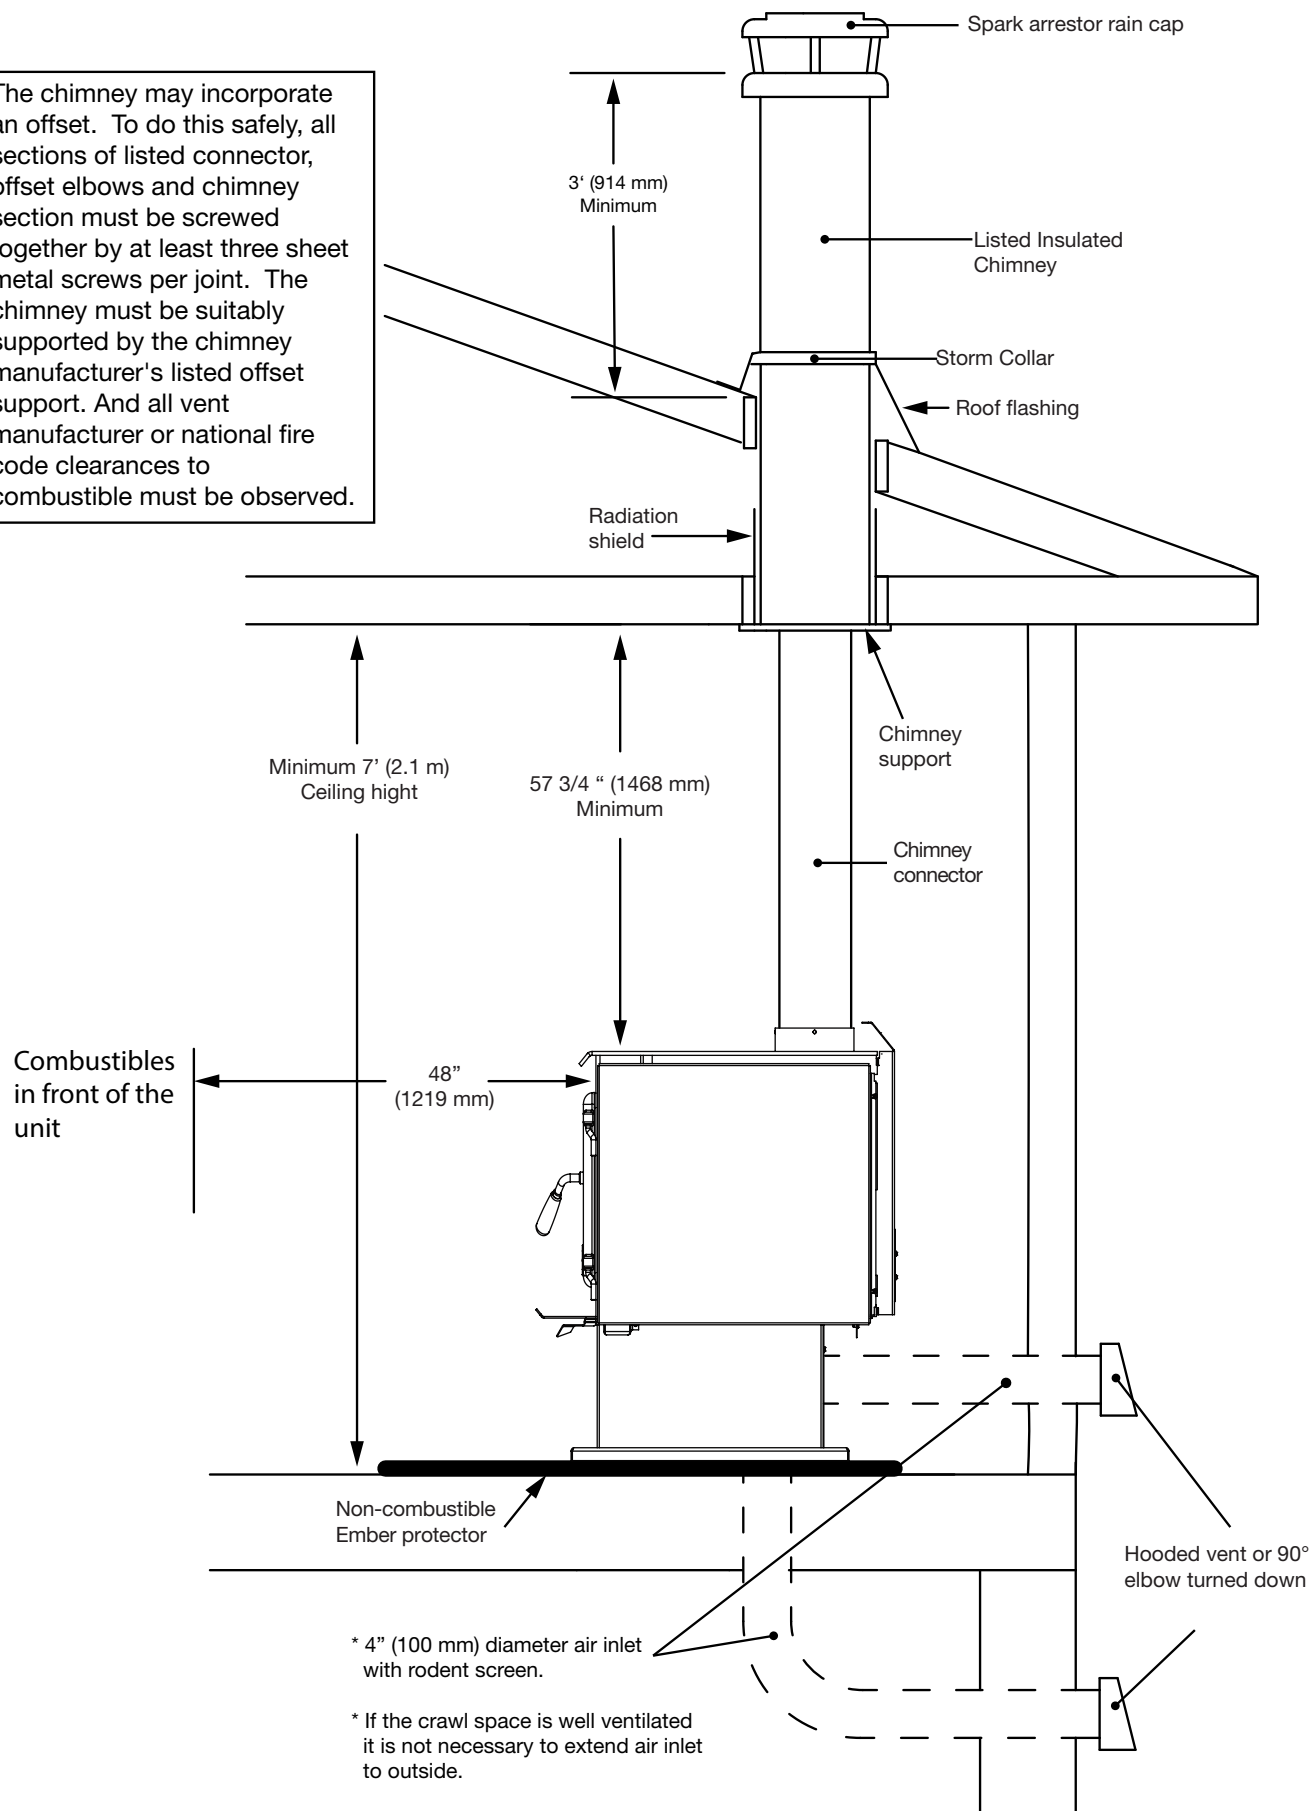

Figure 6: Mobile home or typical home installation.
- To draw outside air through the floor; leave the knockout or square cover plate in the rear of the pedestal in place. Use an approved 4"(100mm) inlet vent cap. Cut or drill a 4"(102mm) diameter or larger hole in the floor anywhere inside the perimeter of the pedestal base. Cover the hole with a 20GA wire mesh minimum, rodent screen and staple/nail in place. This hole must get its air from a ventilated crawl space or be extended with duct to the outdoors (see Figure 6 on page 15 or Figure 7 on page 16)
- To draw outside air through the floor; Cut or drill a 4"(102mm) diameter or larger hole in the floor under the stove. Attach the outside air adapter (OAIR.1B) to the underside of the stove. Connect the adapter to the hole using 4"(102mm) flexible or rigid metal venting. Cover the hole with a 20GA wire mesh minimum, rodent screen and staple/nail in place. This hole must get its air from a ventilated crawl space or be extended with duct to the outdoors (see Figure 6 on page 15 or Figure 7 on page 16. if extended use an approved 4"(102mm) inlet vent cap)